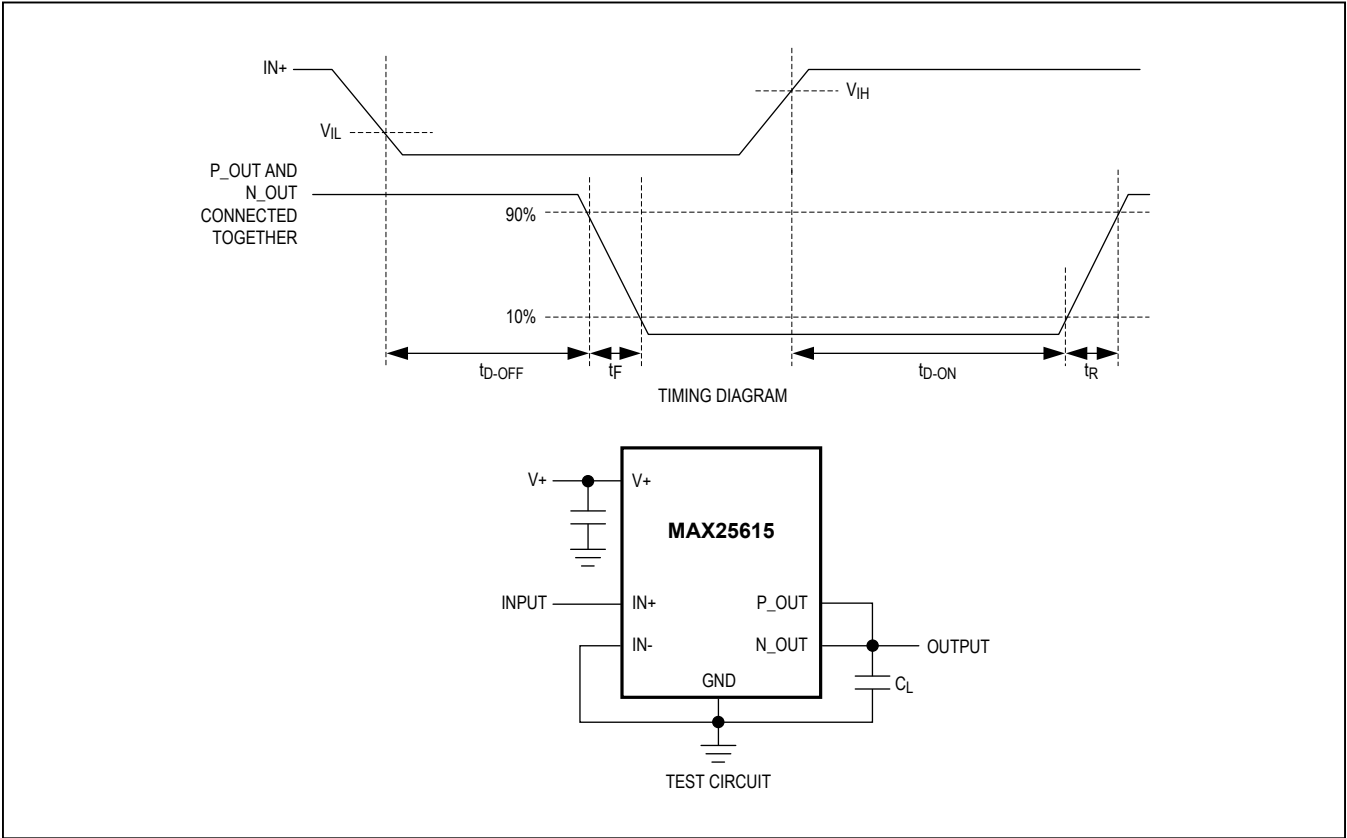

Figure 1. Timing Diagram and Test Circuit
(V+ = +12V, CL = 0F, TA = TJ = -40°C to +125°C, unless otherwise noted. Typical values are at TA = +25°C. see Figure 1.) (Note 3)
**Electrical Characteristics (continued)**(V+ = +12V, CL = 0F, TA = TJ = -40°C to +125°C, unless otherwise noted. Typical values are at TA = +25°C. see Figure 1.) (Note 3)
| SWITCHING CHARACTERISTICS FOR V+ = +12V (Figure 1)  |                    |                                                |                         |      |      |       |
| SWITCHING CHARACTERISTICS FOR V+ = +4.5V (Figure 1) |                    |                                                |                         |      |      |       |
( $C_L = 1000\text{pF}$ ,  $T_A = +25^\circ\text{C}$ , unless otherwise noted. See Figure 1.)
(CL = 1000pF, TA = +25°C, unless otherwise noted. See Figure 1.)INPUT VOLTAGE vs. OUTPUT VOLTAGE